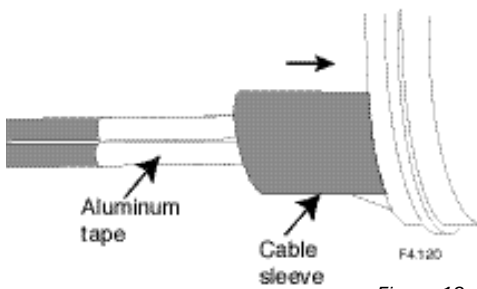

Figure 13
6. Slide the tube back onto the port, being sure that the edge of the tube butts against the D5 base. (Figure 13)